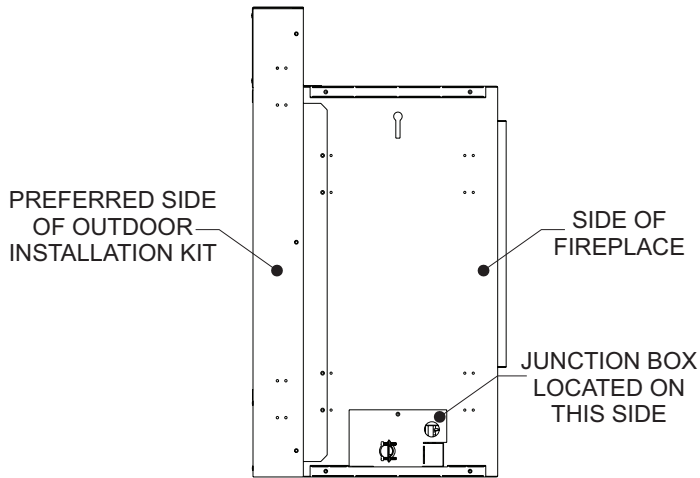

Figure 1
1. Determine where the fireplace will be installed and which side is to be the exterior side (side toward the outside of the residence). Valve controls will be on the side of the unit facing the inside living space. The opposite side of the fireplace is the preferred side for the External Decorative Front. See **Figure 1** for orientation of fireplace with preferred side of External Decorative Front.